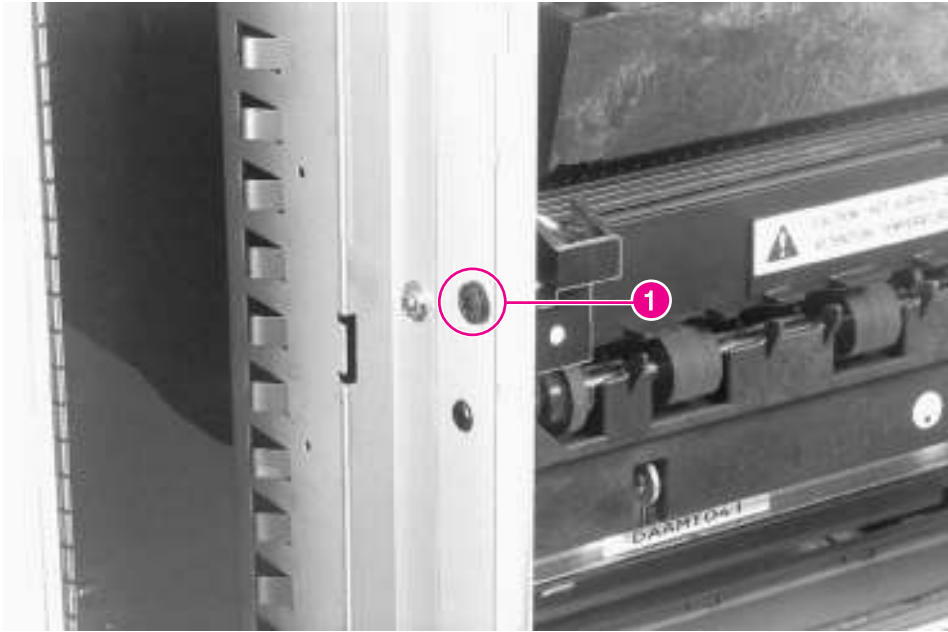

Figure 6-59 Face-up Solenoid Assembly, SL3
- 3 Remove 1 self-tapping screw (figure 6-59, callout 1).